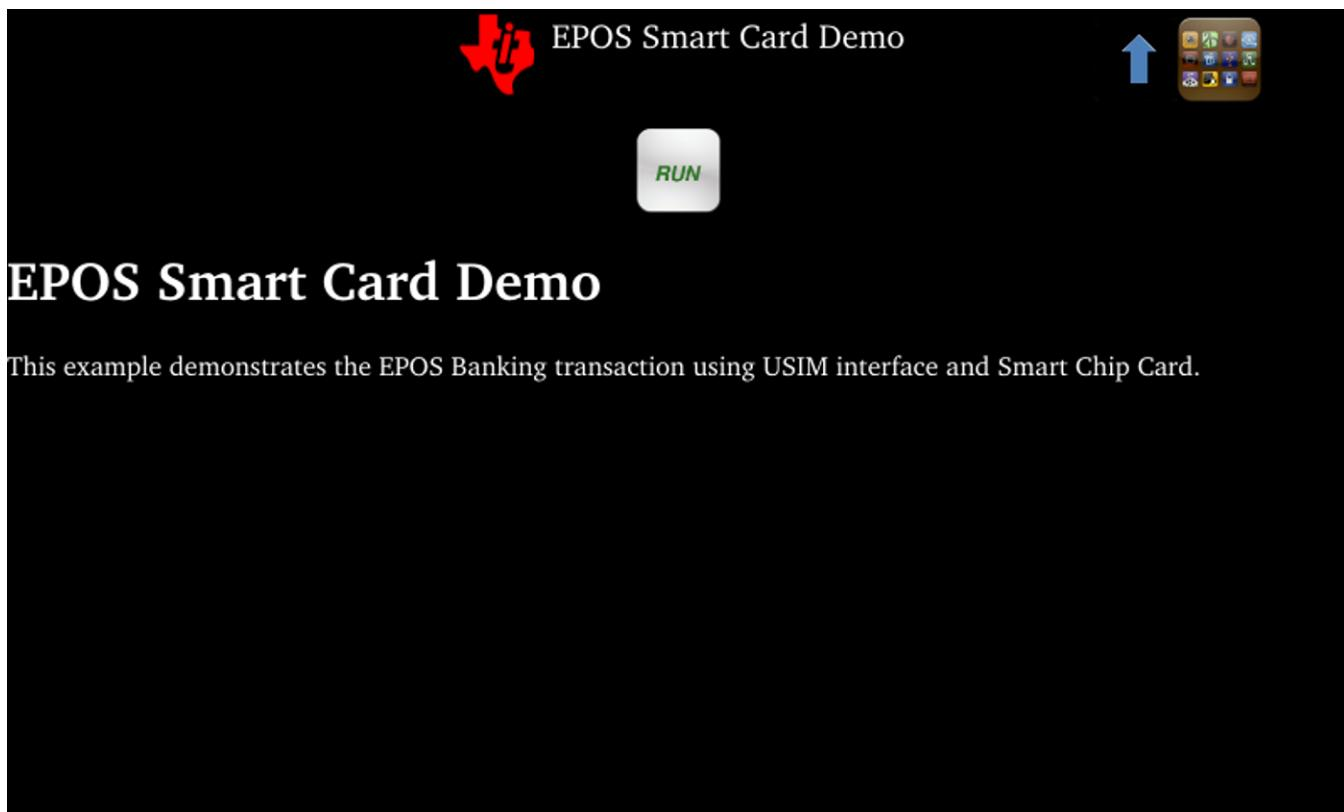

図 11. EPOS Smart Card Demo Home Screen
2. Select the EPOS Smart Card Demo App *RUN* utility (see 図 11).